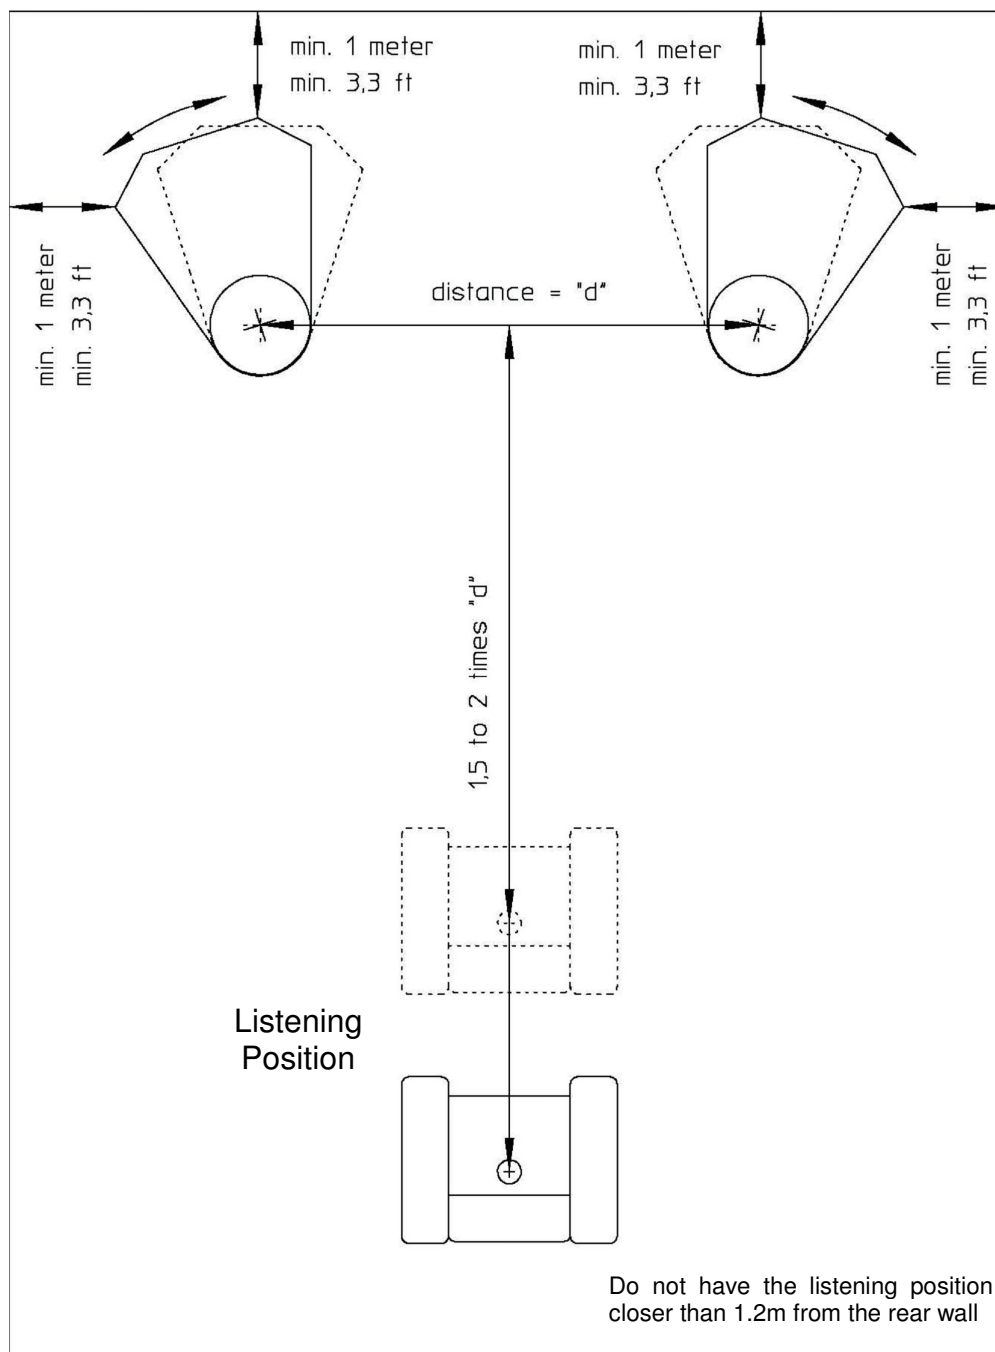

Figure 9. Listening Room Arrangement
1. Place the left loudspeaker bottom plate on the floor in the position where the speaker is to be sited. Please refer to figure 9 for guidance. Ensure that it is sitting squarely on all 5 support points and that it is level.
Figure 9 gives a general guide to loudspeaker positioning and the location of the listening position. Note how the recommended listening position varies with the separation between the DDD towers and also how as the listening position is moved away from the loudspeakers, the woofer modules need to be toed in by rotating them towards the adjacent side walls, while keeping the DDD tower centres in the same position.